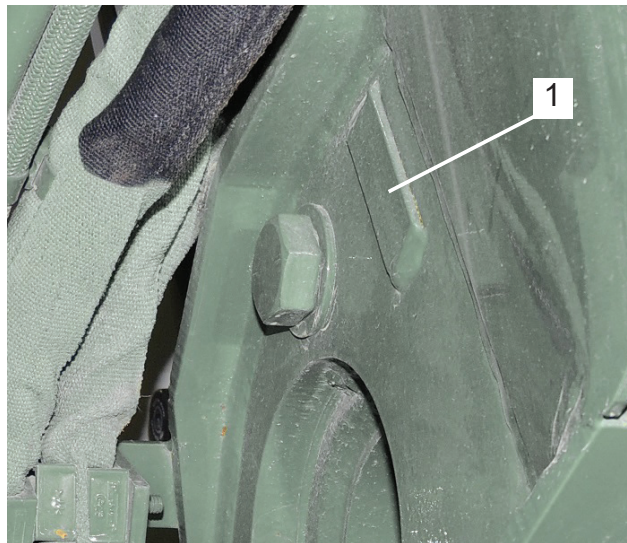

Figure 6
12. Grind the serial number plate off the arm and retain for reinstallation later (Figure 6, Item 1).